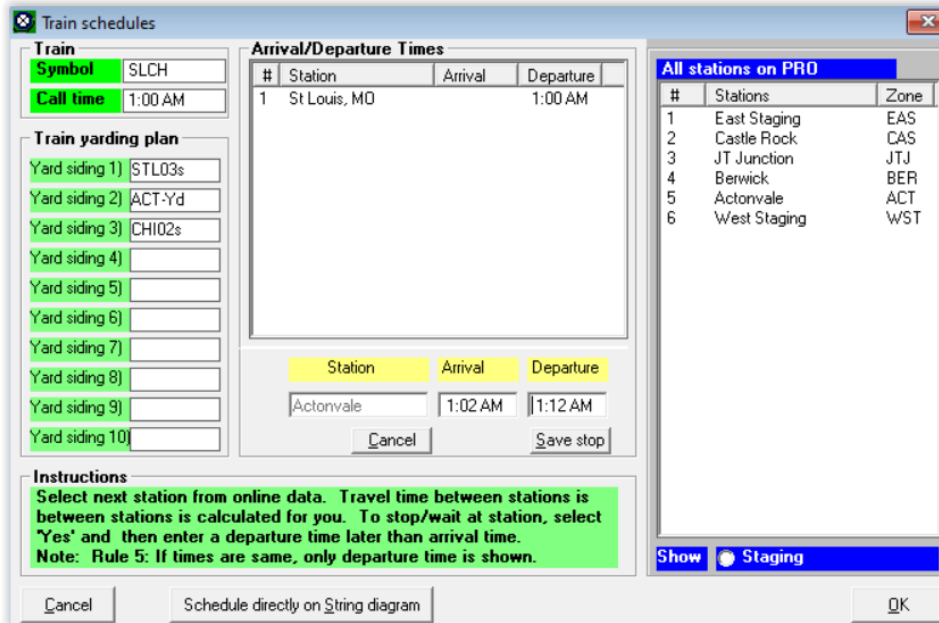

Figure 12-15
4. Since the times are correct for our schedule we can click on "Station stop?" "Yes" since we will stop here for the indicated 10 minutes. The window will change to that shown in Figure 12-15. If we were to click on "Station stop?" "No" ProTrak would have entered Actonvale into the time table with only a departure time. This is useful to show the times at stations where no work is done or delay a train's departure to prevent a later conflict.